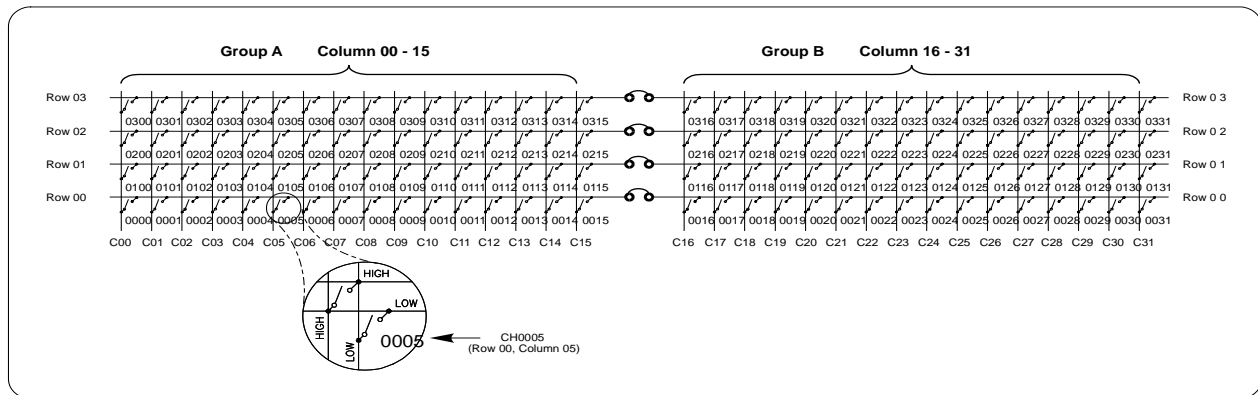

Figure 1-1. Agilent E8481A Simplified Schematic
As shown in Figure 1-1, two 2-wire 4x16 matrixes (Group A & Group B) are implemented on the E8481A module PC board which contains 128 2-wire nodes or crosspoints. Each crosspoint in the matrix uses two Form-A non-latching relays to switch both High (H) and Low (L) signals. By closing or opening the appropriate channel relays, the row is connected to or disconnected from the column. Multiple switch relays can be closed at a time, allowing any combination of rows connected to columns.